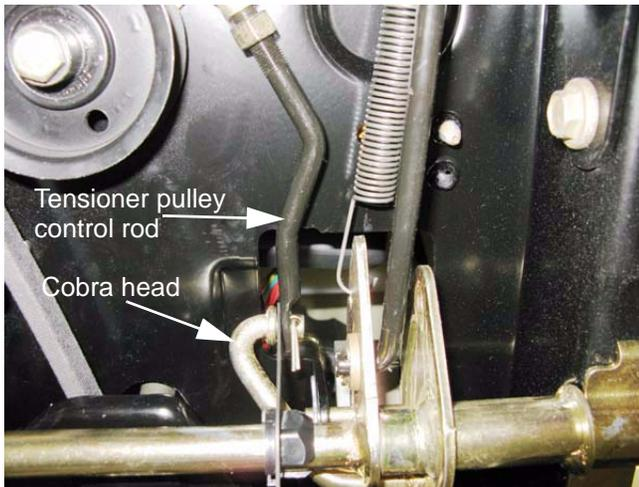

Figure 6.33
2. Remove and discard the cotter pin that holds the tensioner pulley control rod and the tie plate to the "cobra-head" arm on the drive control pedal shaft. See Figure 6.33.